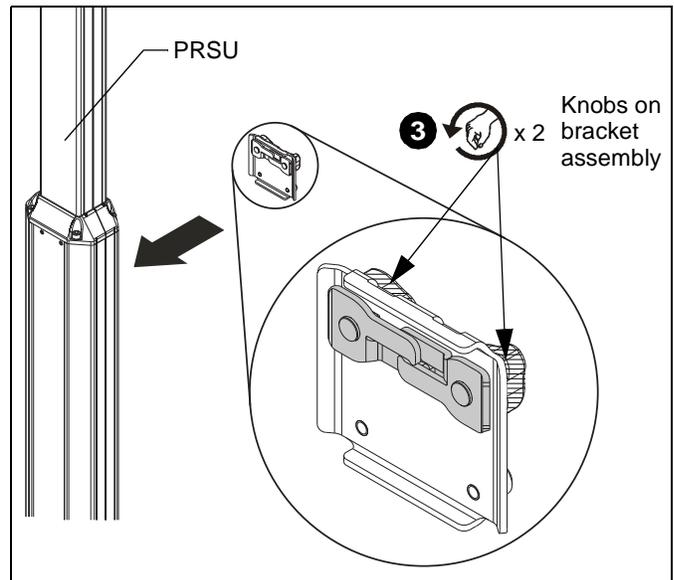

Figure 3
3. Thoroughly loosen, but do NOT remove, knobs on bracket assembly. (See Figure 3)